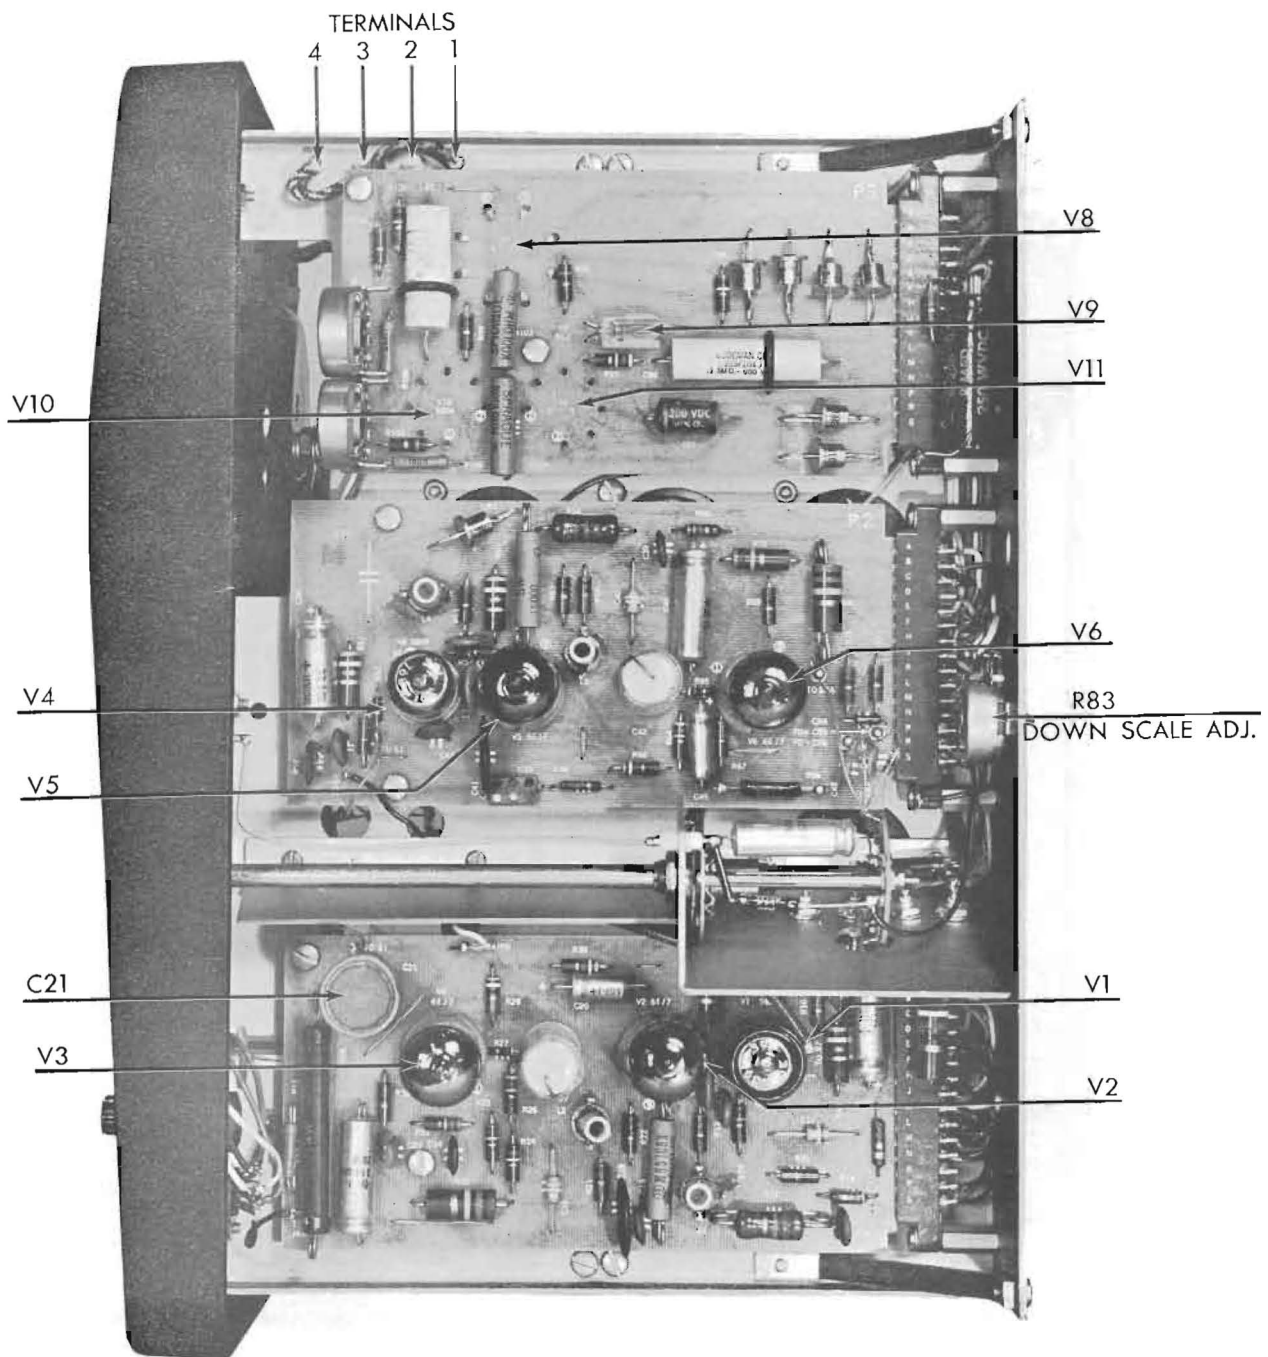

Figure 7. Side View of Model 317 (right) Location of Tubes and Adjustments
5.9 Power Supply Adjustment is needed if the +B Voltage is not within 290 to 300 V or when the power supply shows poor regulation for line transients. Adjustments can be made through R101 or R107 (see figure 7).